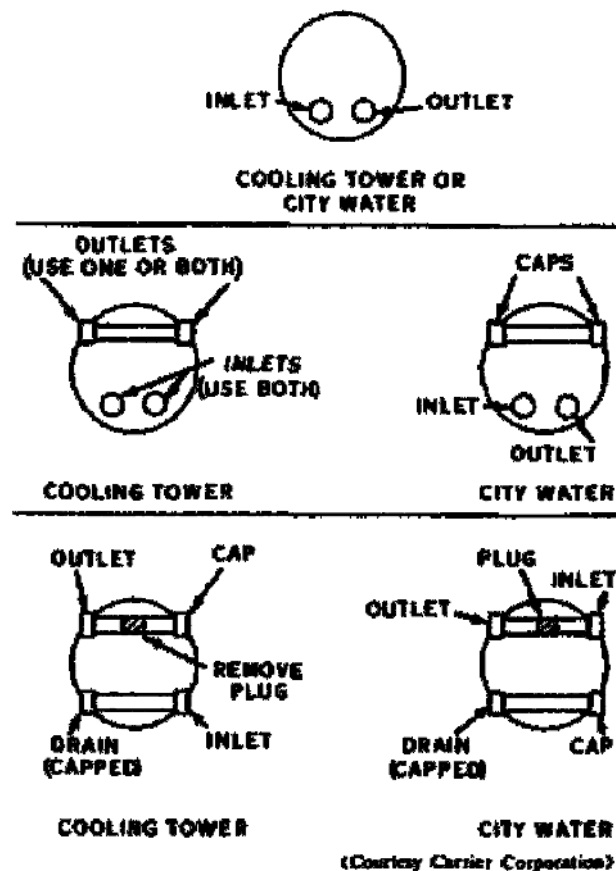

Figure 15. Condenser connections.
14. *Water-cooled condenser connections.* When city water is used as the condensing media, the condenser circuits are normally connected in series. When cooling tower water is used for condensing, the condenser circuits are connected in parallel. See figure 15 for correct condenser water connections.